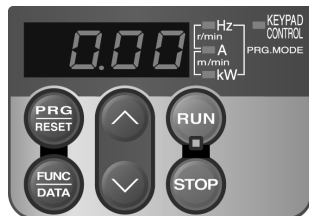

Figure 4.2 Display of the LED Monitor after Power-on
- (1) Check if the LED monitor displays *0.00* (means that the frequency command is 0 Hz) that is blinking. (See Figure 4.2.)